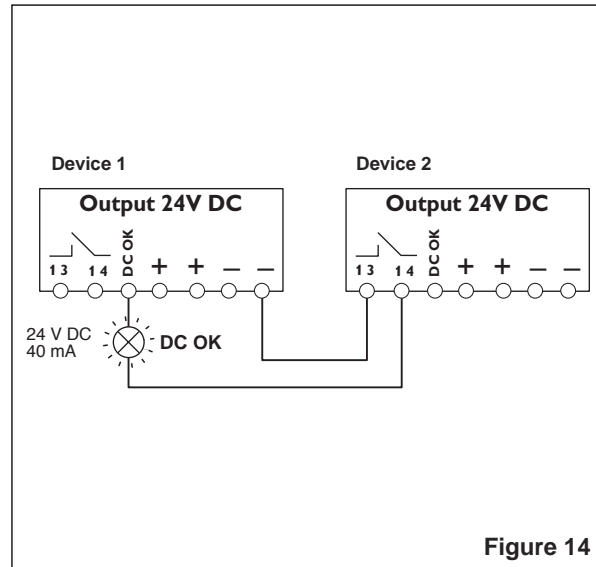

Figure 14
**Signal Loop (Figure 14)**
With heavy loads, the working point demonstrates the U/I characteristic curve shown in Figure 14. The output current is limited to  $I_{BOOST}$ .